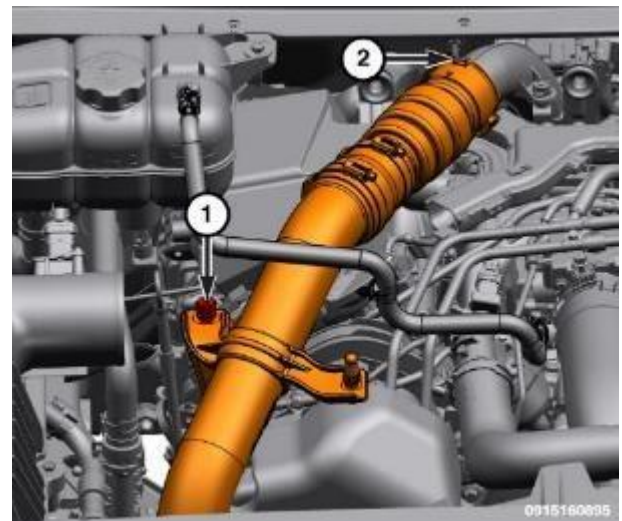

Figure 149 – CAC Hose
12. Remove the fastener (1) securing the right Charge Air Cooler (CAC) hose (Figure 149).
13. Release the retaining lock (2) and disconnect the right CAC hose from the turbocharger (Figure 149).